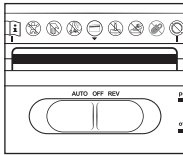

Fig. 2
- ▶ Insert the credit card between the two **1** markings and centred on the arrow **▼** into the cutting opening **14** (see fig. 2). You can only shred one credit card at a time. Always insert cards into the cutting opening **14** with the wide side first. Otherwise, the magnetic strip will not be destroyed.